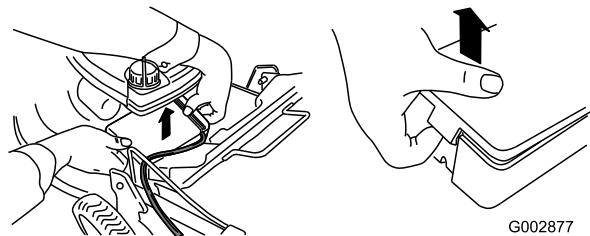

Figure 10
1. Unclip both ends of the battery cover and remove it (Figure 10).